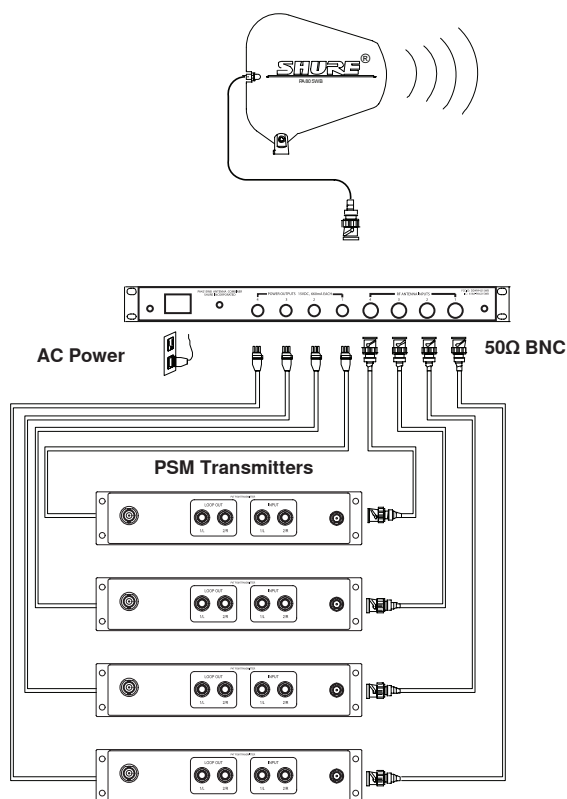

Figure 2
1. Using the supplied BNC-BNC cables, connect the Antenna Output of each transmitter to the Antenna Inputs of the PA421SWB (See Figure 2).
2. Attach an antenna to the MAIN Out of PA421SWB. For wideband applications, use PA805SWB directional antenna (Figure 2).
4. If you have a Shure PSM system that has the same power input connectors as the PA421SWB power outputs, such as the PSM400, connect the PSM system to the PA421SWB via the supplied power cables (see figure 2). This replaces the need for an external power supply.
NOTE: When the PA421SWB is powered on, the input signal indicators (1-4) on the front panel will illuminate if an active transmitter is connected to the corresponding input (1-4) on the back panel (Figure 2).